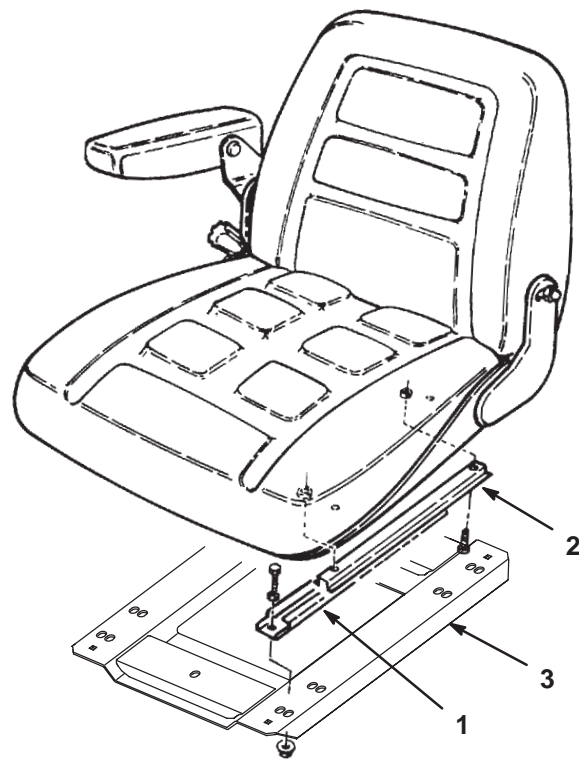

Figure 2
1. Remove the shipping ties securing the lower seat slides to the upper seat slides. Note the orientation of the lower slides for correct reinstallation (Fig. 2).
2. Insert the lower slides onto the upper slides (Fig. 2).
4. Loosely secure slides to seat plate with fasteners supplied with seat (Fig. 2).